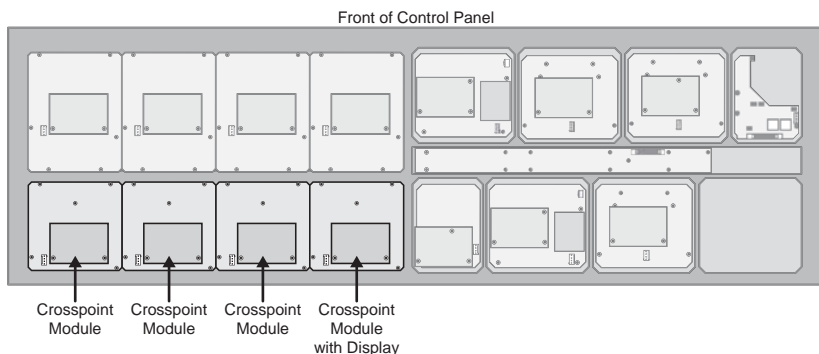

Figure 4 Crosspoint Module Locations — Vision 2X
1. Locate the **Crosspoint** module slots in the control panel (**Figure 4**).